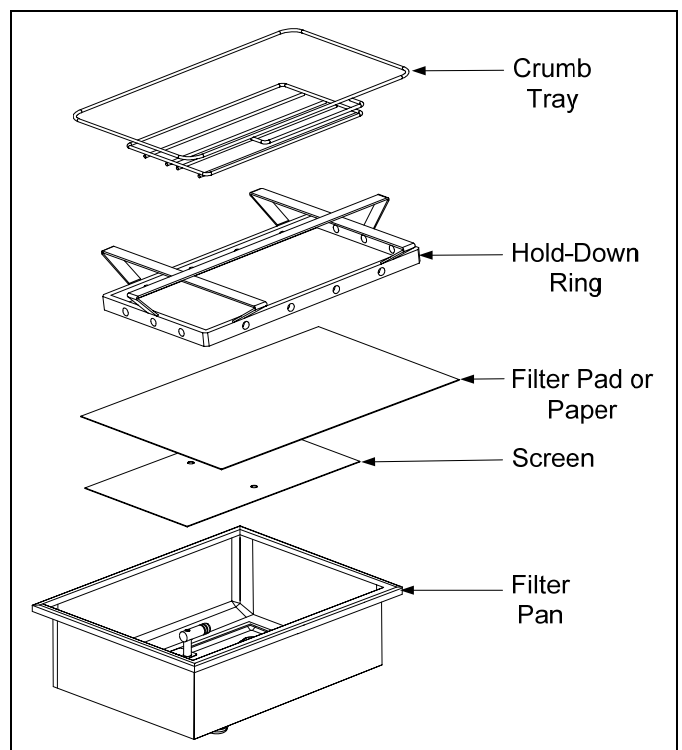

Figure 1
1. Pull the filter pan out from the cabinet and remove the crumb tray, hold-down ring, filter paper and filter screen (see Figure 1). Clean all components with a solution of detergent and hot water then dry thoroughly.
3. Then in reverse order, place the metal filter screen in the center of the bottom of the pan, then lay a sheet of filter paper on top of the screen, overlapping on all sides (see Figure1). If using a filter pad, ensure the rough side of the pad is up and lay the pad over the screen, making sure that the pad is in between the embossed ridges of the filter pan.